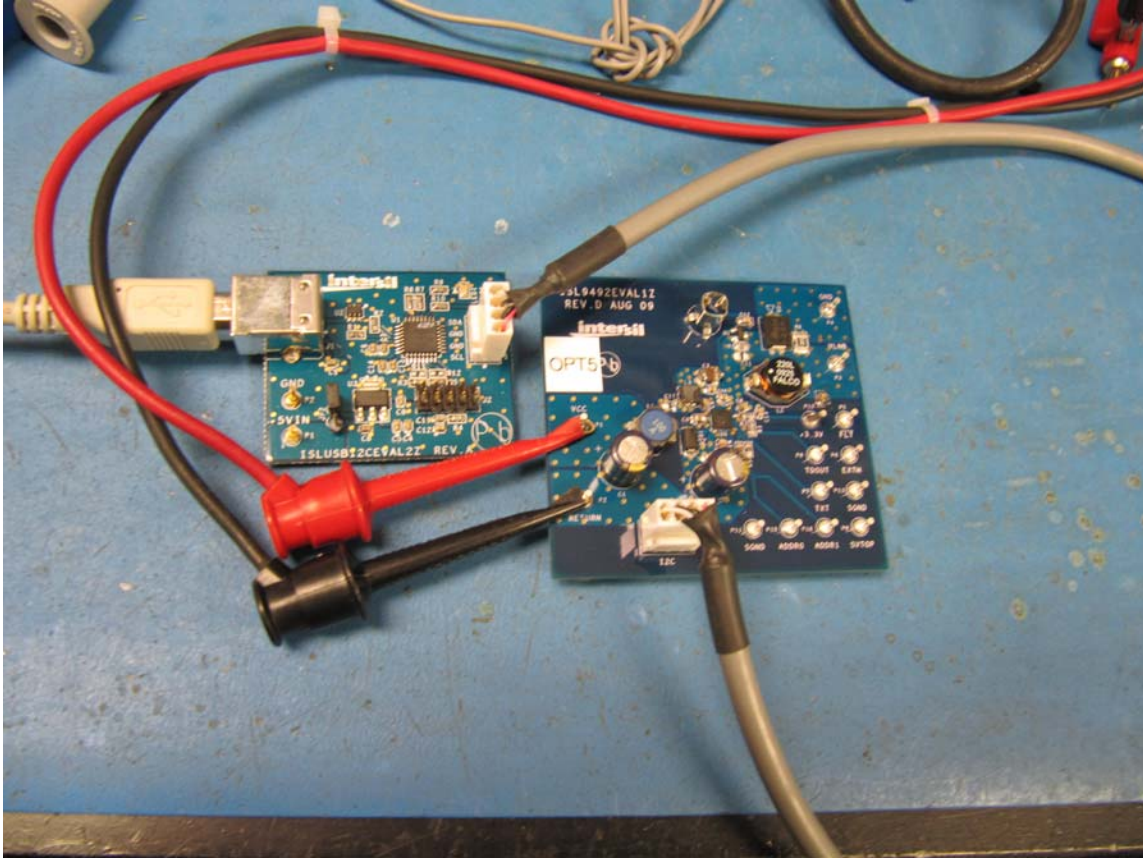

FIGURE 3. ISL9492QFNEVAL1 EVALUATION BOARD CONNECTION
5. Apply a +12V supply to V_{CC} and GND to the Return post on the ISL9492QFNEVAL1 evaluation board. Connect a USB connector and one end of the 4-wire connector to the I²C daughter board. The other end of the 4-wire connector goes to the ISL9492QFNEVAL1 evaluation board, jumper J1 as shown in Figure 3.